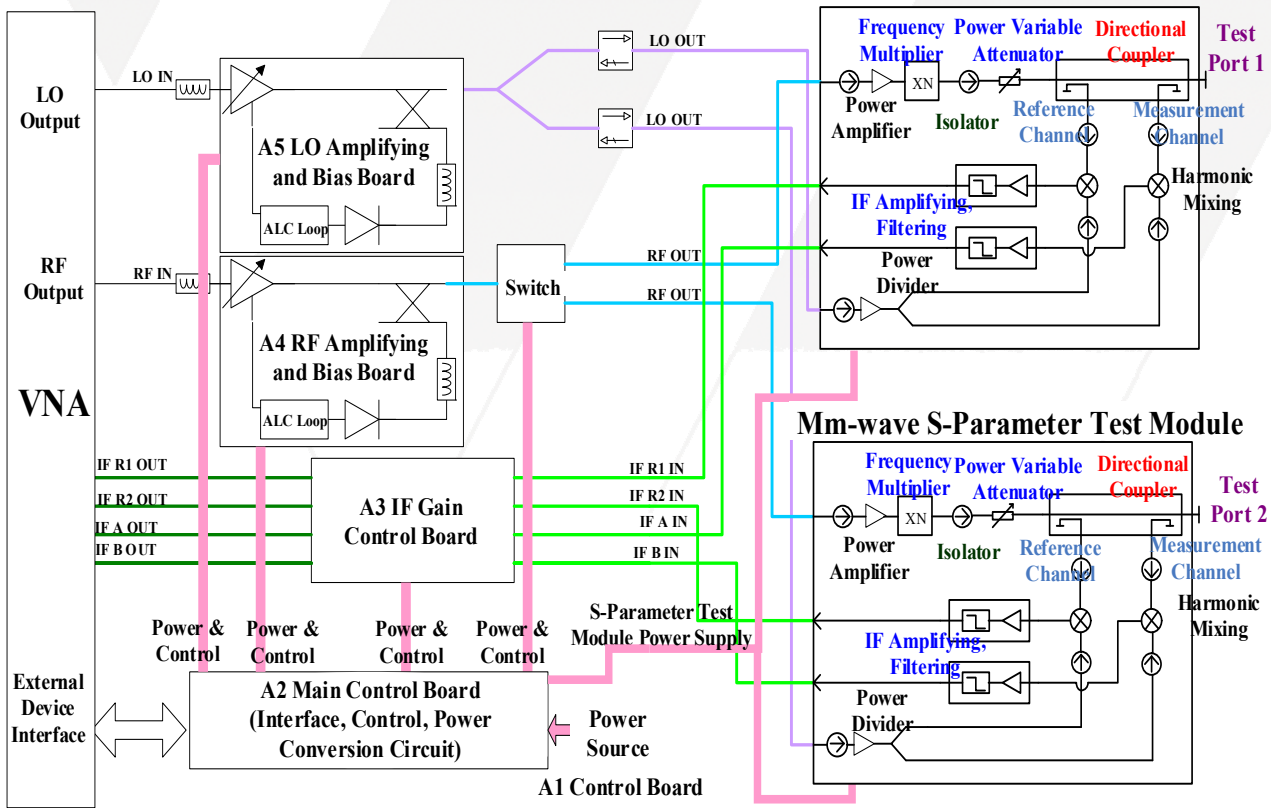

Fig. 2 Mm-wave and THz VNA System Schematic Diagram
B. The schematic diagram of the vector network analysis system is shown in Figure 2.